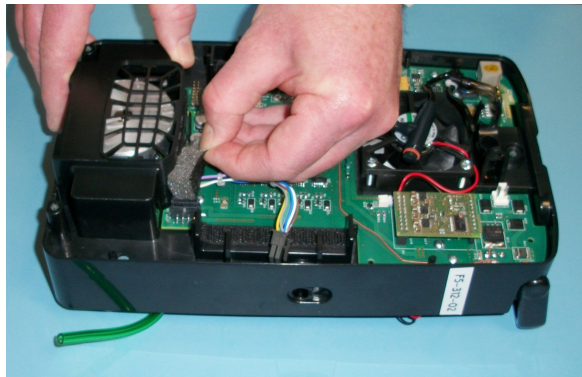

Figure 5.7
5. Remove and discard foam from the top of the oval opening. (See Figure 5.7.)